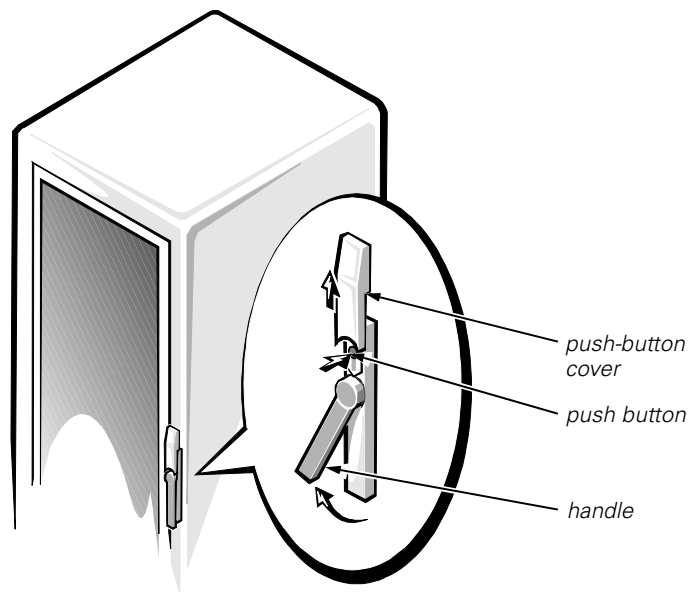

Figure 1-11. Opening the 42-U Rack Door
1. Open the latch on the front door (see Figure 1-11).